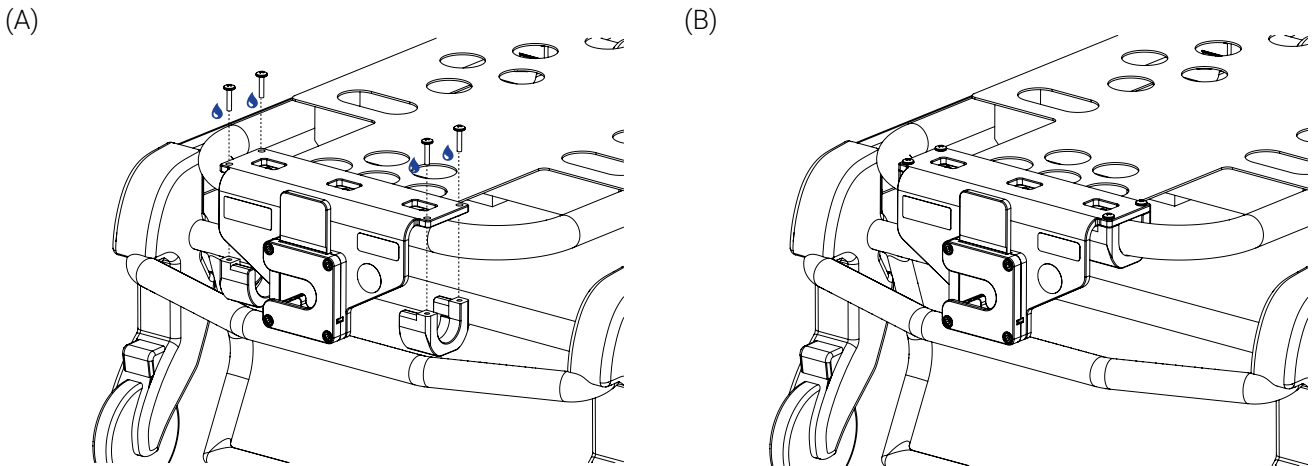

Figure 37: Installing the Flex Seqr Stretcher Head End at patient head end of the stretcher
3. Place the two (2) c-shape parts of the mounting system under the stretcher frame at patient head end and the main part of the mounting system over the stretcher frame, then align the screw holes and partially tighten four (4) 10-32 x 1 in. button head screws coated with medium strength adhesive, using a Phillips #2 screwdriver (Figure 37).
4. Tighten all four (4) screws using a Phillips #2 screwdriver.